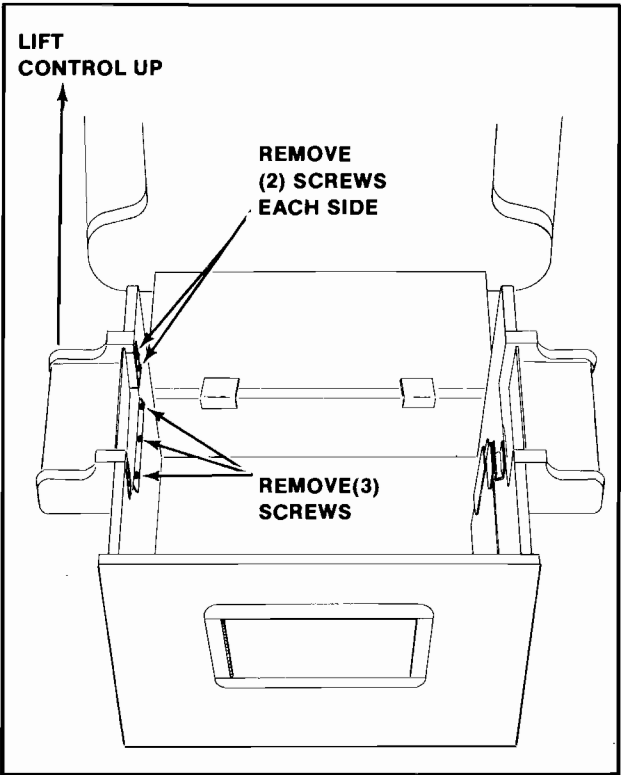

Figure 4-4 Removing the Control Panel — Cocktail
2. COCKTAIL TABLE MODEL: See Figure 4-4.
Remove the screws which secure the control panel in place. See Figure 4-4.